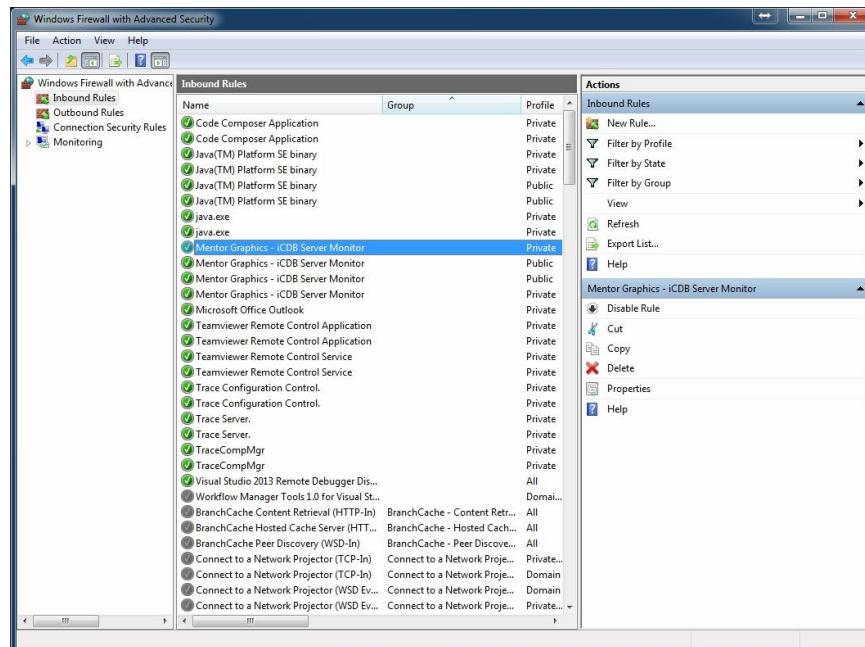

Figure 3-11 Windows Firewall – Advanced Security New Rule
Step 5: From the window below, select the "New Rule" option under the ACTIONS window pane on the right. Refer to Figure 3-11.